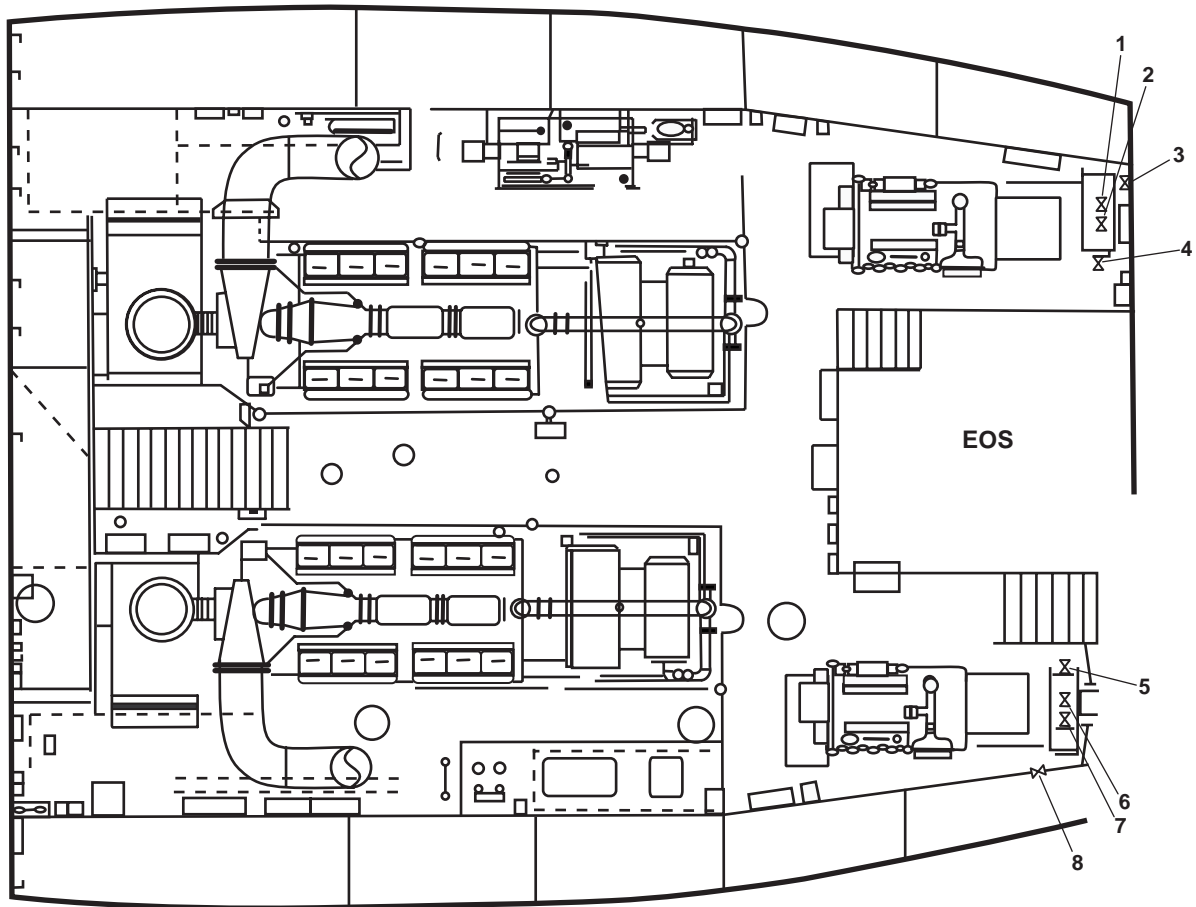

Figure 6. MSD Valves, Engine Room Forward
Table 6. MSD Valves, Engine Room Forward (Refer to figure 6)
**Table 6. MSD Valves, Engine Room Forward (Refer to figure 6) (continued)**